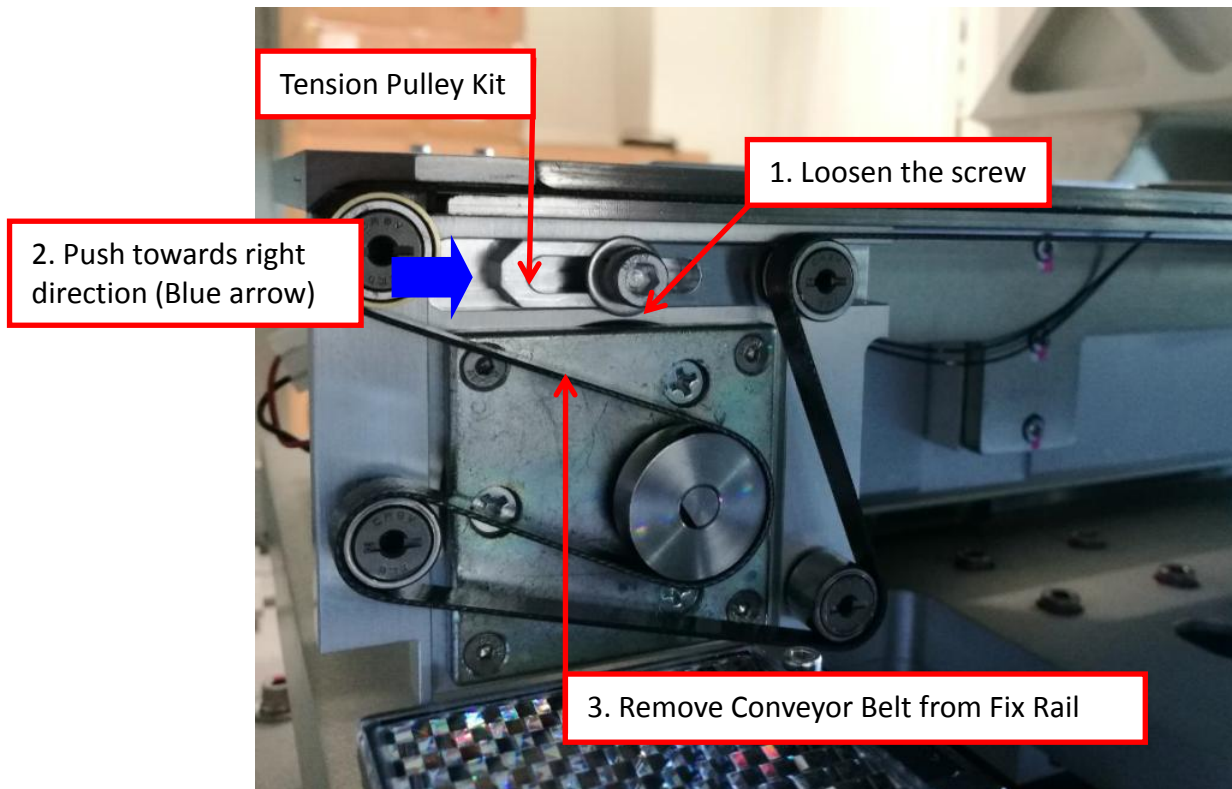

Figure 23 Fix Rail Conveyor Belt Removal
2. Loosen 1 x Screw at Tension Pulley Kit as shown in Figure 23.
Push the Tension Pulley Kit towards left direction (Blue arrow in Figure 23)